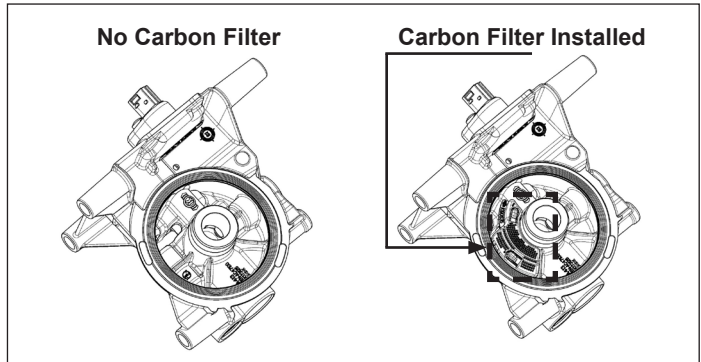

Figure 2 – Carbon Filter
4. Once accessible, remove the carbon filter from the air dryer body and discard. See Figure 2.